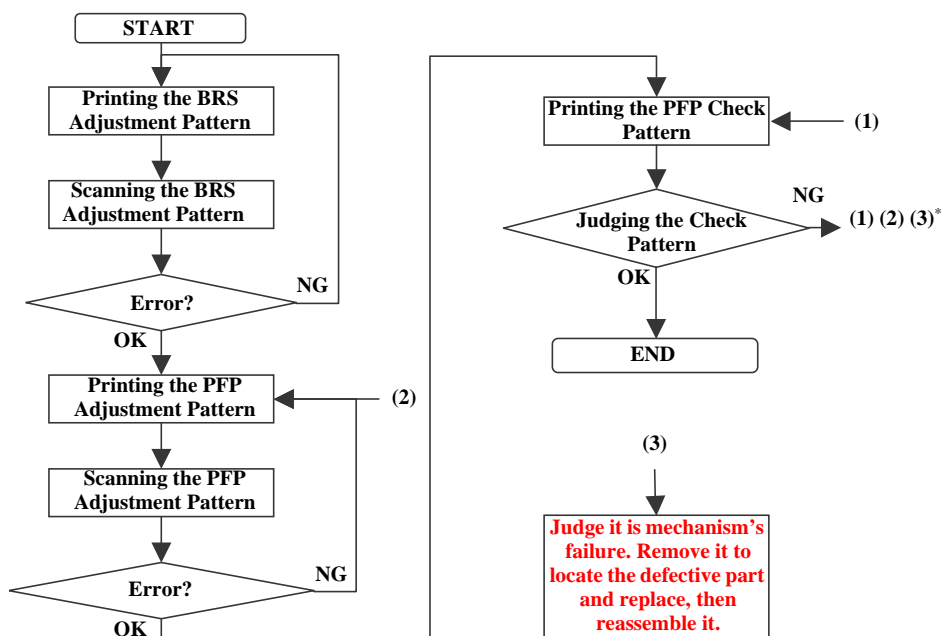

Figure 5-12. BRS/PFP Adjustment Flow
When performing PFP adjustment only without BRS adjustment, start adjustment from step (2) in Fig5-12.